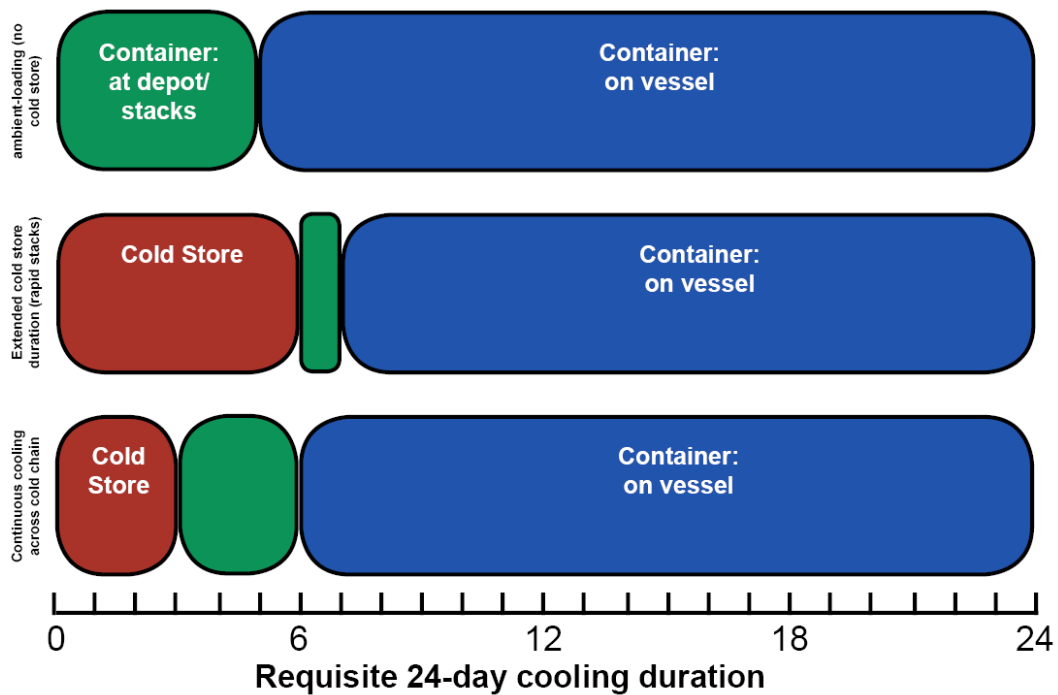

Figure 5: Three examples of how the 24-day cooling duration can be achieved.
- b. Exporters to ensure that all consignments exported in containers are under cooling for at least 24 days (Figure 5).